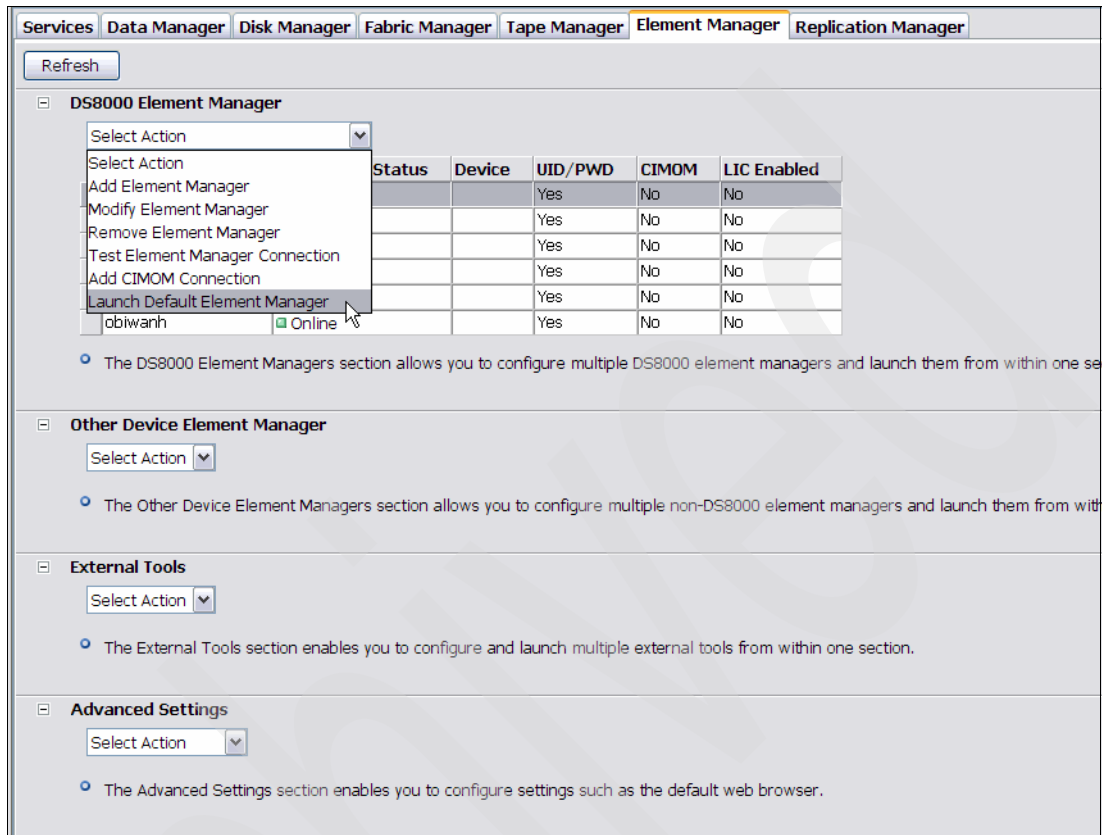

Figure 12-6 Launch the Element Manager
14. Once the DS8700 GUI had been added to the Element Manager, select the Element Manager you want to work with and, from the Select Action drop-down menu, click **Launch Default Element Manager**, as shown in Figure 12-6.